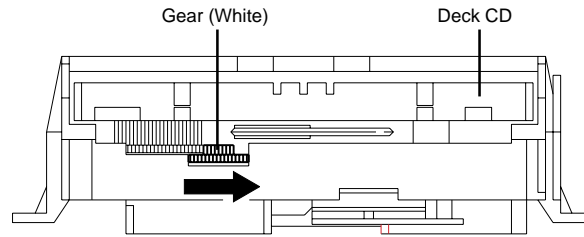

Fig. 1
1. Remove the Back Cabinet and AV PCB/DVD Block. (Refer to item 1 of the **DISASSEMBLY INSTRUCTIONS.**)
2. Rotate the white gear of Deck CD section in the direction of the arrow by hand. (Refer to Fig. 1)